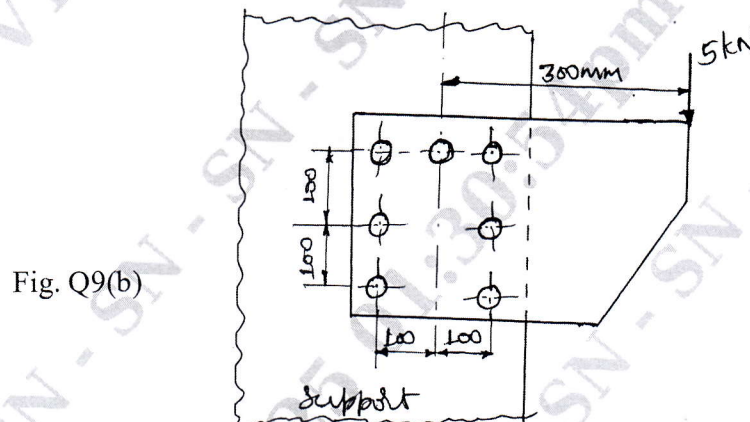

Fig. Q9(b)
- b. A bracket is bolted to a vertical support by 7 bolts of equal size as shown in Fig. Q9(b). Determine the size of the bolt, if the allowable shear stress in the bolt material is 40 MPa.